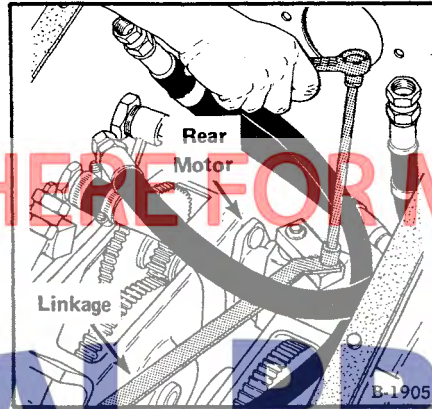

Fig. 3-4 Removing Rear Motor Linkage
- (1) Remove the bolt holding linkage to arm on rear motor (Fig. 3-4).